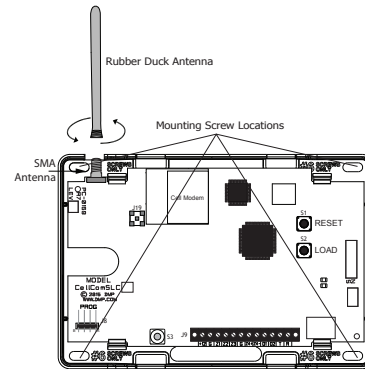

Figure 6: Mounting Screw Locations
Mounting the communicator on or near metal surfaces impairs cellular and Z-Wave wireless performance. The enclosure for the communicator should be mounted to the wall using the included #6 screws in the four mounting holes (See Figure 6). Mount the enclosure in a secure, dry place to protect the communicator from damage due to tampering or the elements. It is not necessary to remove the PCB when installing the enclosure.
3. Using your index finger and thumb, twist the antenna until it is securely tightened. See Figure 6.